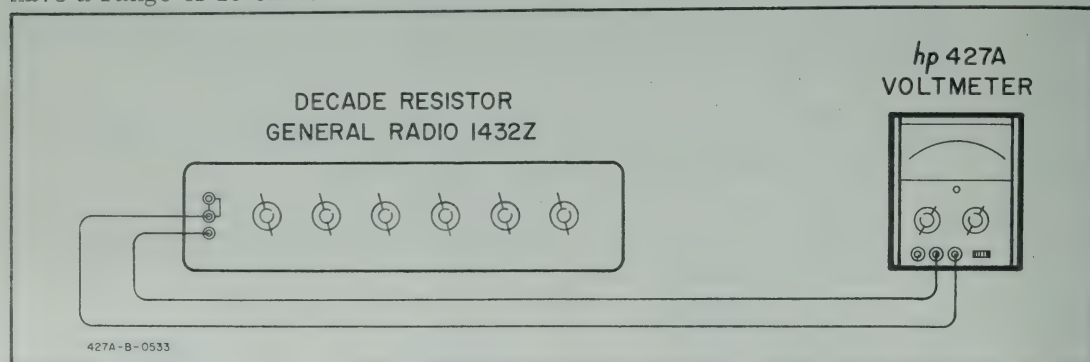

Figure 5-2. Resistance Accuracy Check
Paragraphs 5-14 to 5-17 and Figure 5-2 and Table 5-2
5-15. To check the resistance accuracy, precision resistances are needed. Figure 5-2 shows the resistance accuracy check using a General Radio Model 1432Z decade resistor. The resistance used should be accurate to within  $\pm 0.5\%$  and should have a range of 10 ohms to 10 M ohms.
- Connect the decade resistor and the Model 427A as shown in Figure 5-2, and set the decade for 10  $\Omega$ .